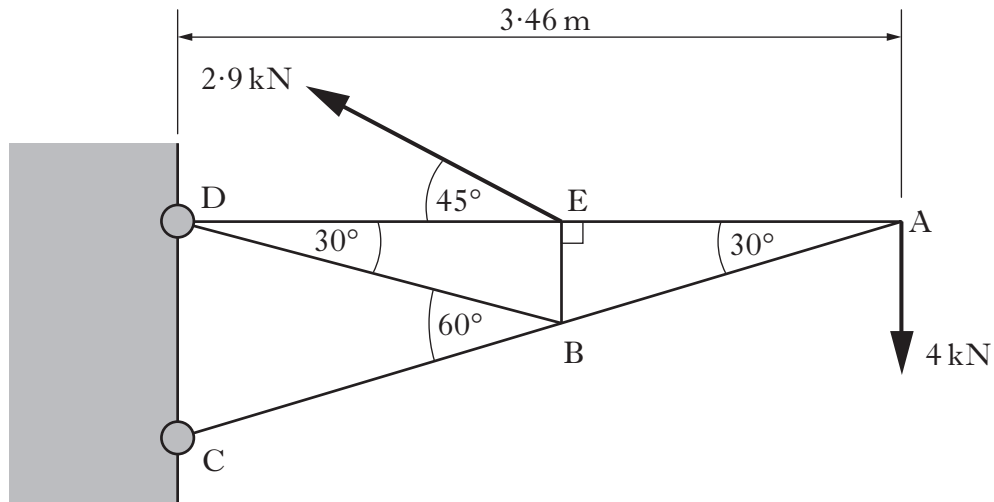

Figure Q9(a)
9. The framework shown in Figure Q9(a) represents the jib-arm of a wall-mounted crane.